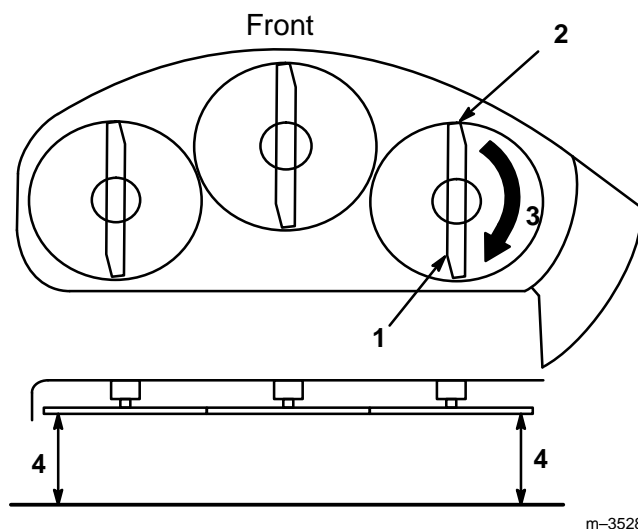
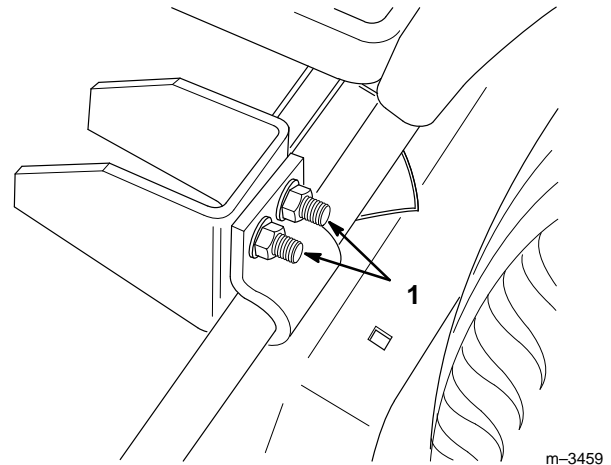

Figure 15
Figure 17
2. Carefully rotate one of the blades so it is facing front and rear (Fig. 15).
3. Measure the distance from the front tip of the blade (Fig. 15) to the flat surface. Then carefully rotate the blade tip until it is in the rear position. When the blade tip is in the front position, it should be 1/8" (3 mm) lower than when it is in the rear position.
Equalize side-to-side cut by adjusting the two carriage bolts (Fig. 17) on the mower. Check height of blade at outside blade tips as shown (Fig. 15).
5. Check the slope of one of the blades (Fig. 15).